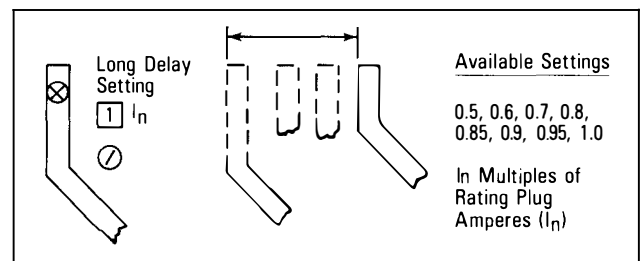

Fig. 6.1 Long Delay Ampere Pickup Settings
Eight (8) available settings, as indicated in Fig. 6.1, range from 0.5 to 1.0 (I_N). Each setting is expressed as a multiple of the maximum ampere rating (I_N) of the installed rating plug.